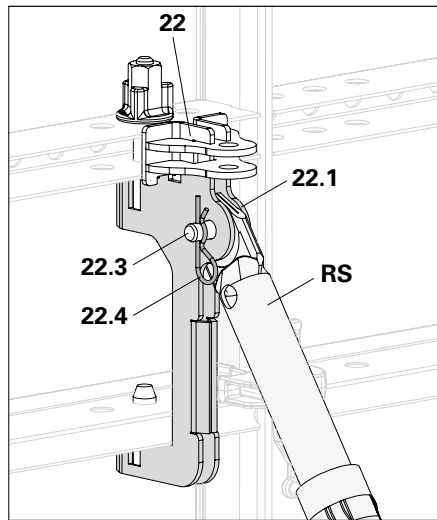

Fig. A6.03a
- Connect Push-Pull Prop (RS) and connection lugs (22.1) with bolts (22.3) and cotter pins (22.4). (Fig. A6.03a)